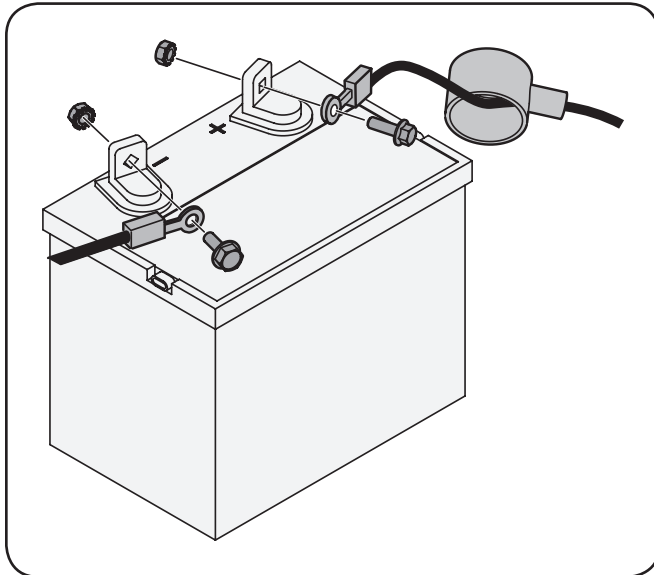

Figure 3-9
1. Remove the plastic cover, if present, from the positive battery terminal and attach the red cable to the positive battery terminal (+) with the bolt and hex nut. See Figure 3-9.
2. Remove the plastic cover, if present, from the negative battery terminal and attach the black cable to the negative battery terminal (-) with the bolt and hex nut. See Figure 3-9.